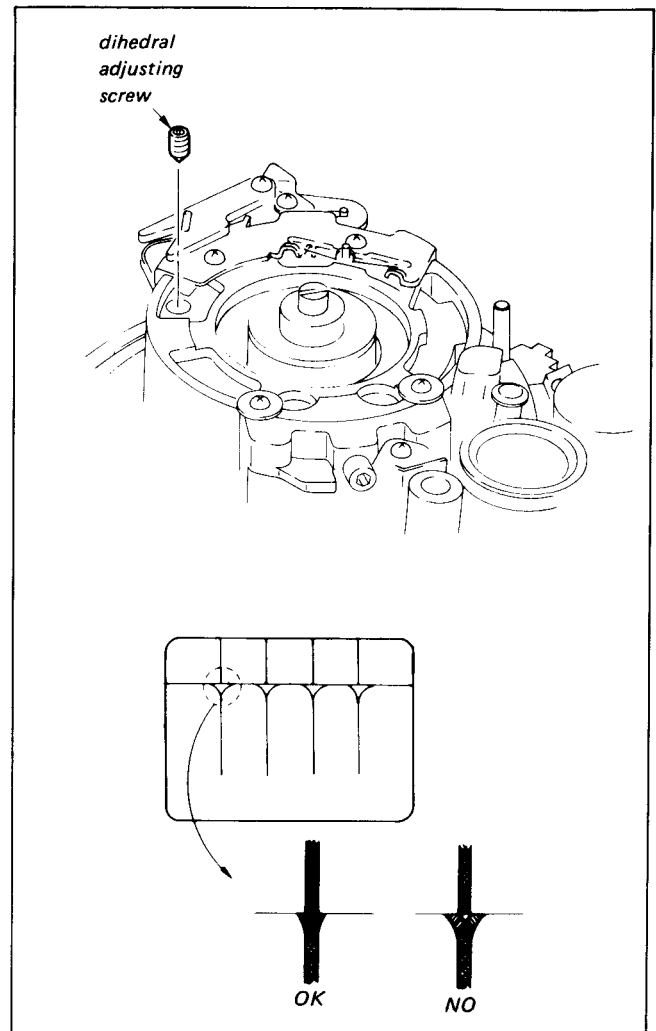

Fig. 3-3. Video Head Dihedral Adjustment (1)
1. As shown in Fig. 3-3, screw in the two angle adjustment screws (Tool Ref. No.J-10) so that the lead wires from the video head are on the same level as the red adjusting screw hole and the top of the adjusting screw hole, and the top of the adjusting screw is on the same level as the top of the video head disc.